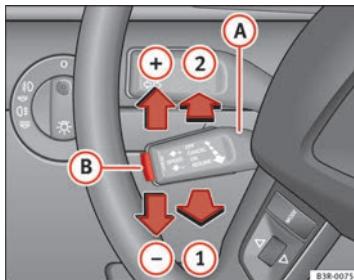

Fig. 155 Controls for the cruise control system
- Pull the lever **A** to position ⇒ Fig. 155 **1** to activate the system.
If no speed was stored when the system was temporarily disabled, a new speed can be set as follows: drive at the desired cruising speed and briefly press button \Rightarrow Fig. 155 **B** (SET).
- Move lever **A** ⇒ Fig. 155 to position **2** (click stop engaged).